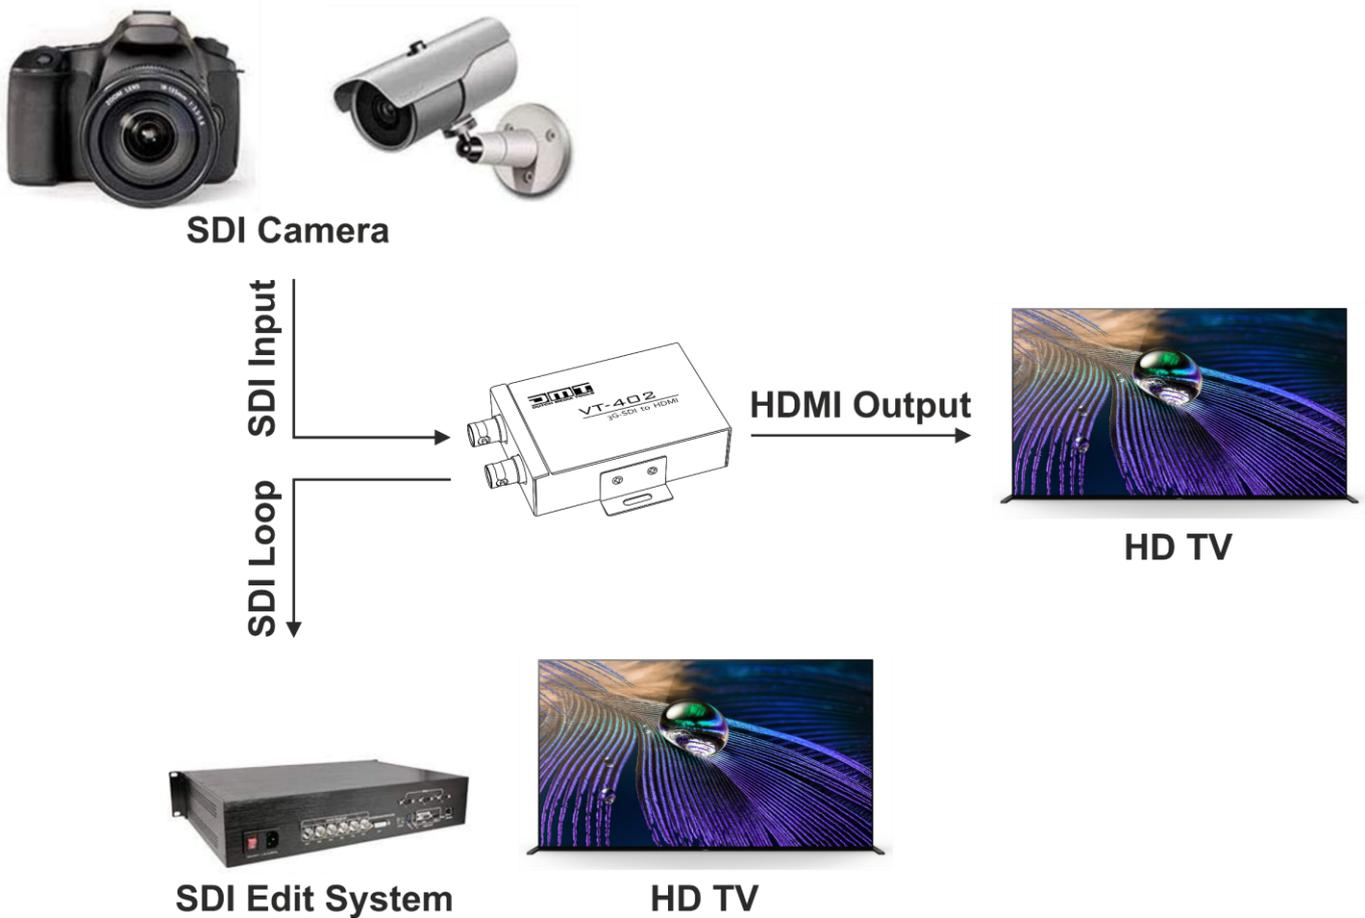

Fig. 06
- 02) Connect an SDI source device (digital camera or a surveillance camera) to the **BNC SDI video signal connector IN (05)**. See Fig. 06 on page 9.
- 04) Connect devices (TV or an SDI device) to the **BNC SDI video signal connector LOOP (06)**. See Fig. 06 on page 9.
- 05) Connect display devices (TV) to the **HDMI signal connector OUT (01)**. See Fig. 06 on page 9.
- 06) Connect the device to the power supply. See **4.4. Connecting to Power Supply** on page 10. The **power LED indicator (Red) (03)** will turn on.